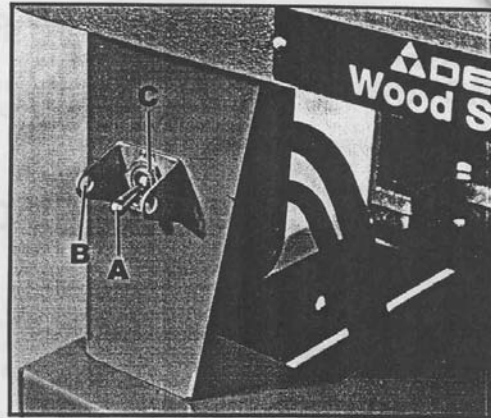

Fig. 9
3. Insert the switch box up thru the hole in the shaper stand as shown in Fig. 9, before mounting switch to shaper leg.
4. Insert the switch stem (A) Fig. 9, thru hole in shaper leg from inside, making sure the keyway in the stem is in the down position.
5. Place the switch bracket (B) Fig. 9 on switch stem with the key in switch bracket engaged in keyway of switch stem; fasten in place with hex nut (C) which was removed in Step #2.